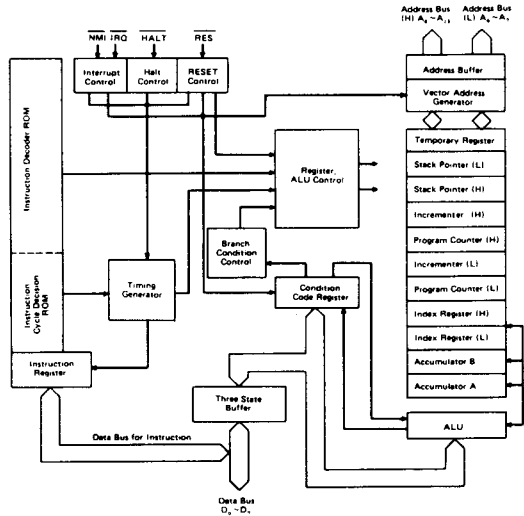

Figure 9 Internal Block Diagram of MPU
The condition code register indicates the results of an Arithmetic Logic Unit operation: Negative (N), Zero (Z), Overflow (V), Carry from bit 7 (C), and half carry from bit 3(H). These bits of the Condition Code Register are used as testable conditions for the conditional branch instructions. Bit 4 is the interrupt mask bit (I). The unused bits of the Condition Code Register (b6 and b7) are "1". The detail block diagram of the microprocessing unit is shown in Fig. 9.
Proper operations of the MPU requires that certain control and timing signals (Fig. 9) be provided to accomplish specific functions. The functions of pins are explained in this section.